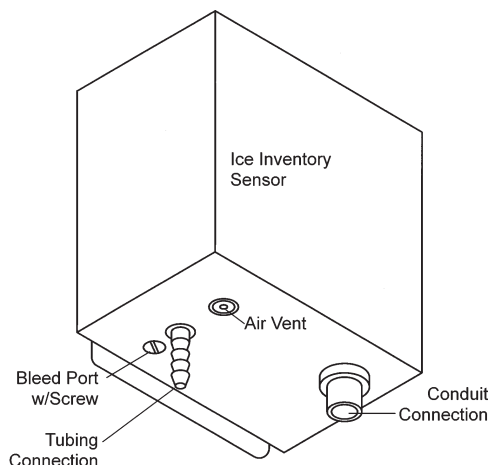

Figure 6. Underside of Sensor
1. Open the bleed port (Figure 6) by turning the screw counterclockwise until a substantial flow is estab-
3. Add or remove water from the Control Assembly until the level is **exactly** at the 0% Ice Build Level. Open the bleed port to remove water if necessary (*Figure 6*).
5. Purge the sensor to remove any air by turning the bleed port screw on the underside of the sensor counterclockwise (Figure 6) until water begins to flow from the sensor. **Caution Do not remove the screw.**
2. With the interconnecting tubing clear of biologicals and sediment, purge the ice inventory sensor(s) by turning the bleed port screw on the underside of the ice inventory sensor (*Figure 6*) counterclockwise until water begins to flow from the port. Bleed the water until all air is purged and then retighten the screw to stop the flow. It may help to tap the tubing to help remove air bubbles.
Sensor tubing clogged.	Disconnect the tubing from the ice inventory sensor and purge the tubing only with clean water until clear. Reconnect the tubing and open bleed port screw (Figure 6) and purge air from both the sensor and sensor tubing. Caution -- DO NOT apply pressure to the ice inventory sensor as this can cause extensive transducer damage.
Sensor tubing clogged	Disconnect the tubing from the ice inventory sensor and purge the tubing only with clean water until clear. Reconnect the tubing and open the bleed port screw (Figure 6) and purge air from both the sensor and sensor tubing. Caution -- DO NOT apply pressure to the ice inventory sensor as this can cause extensive transducer damage.